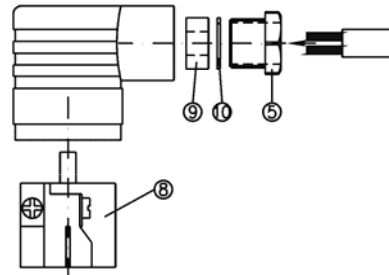

Fig. 9
- ⇒ Feed the connecting cable into the junction box via the screw connection (pos. 5), the clamping ring (pos. 10) and the rubber insert (pos. 9) and subsequently connect the wires as displayed in the connection diagram (see Fig. 9).
- ⇒ Press the core (pos. 8) until it locks into position in the junction box (pos. 2).
- ⇒ Tighten the cable gland M16x1.5 (pos. 5).